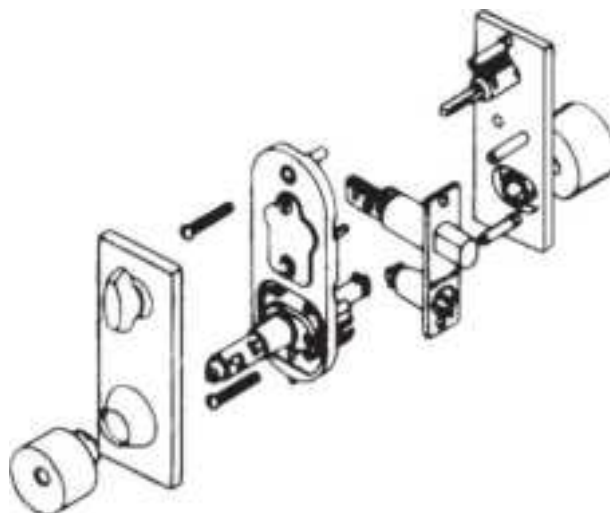

**Figure 13.60** Disassemble lock.
8. Disassemble the lock. Remove the inside knob and lift off the outside mechanism (Fig. 13.60 ).